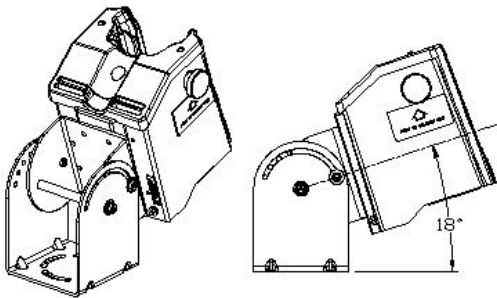
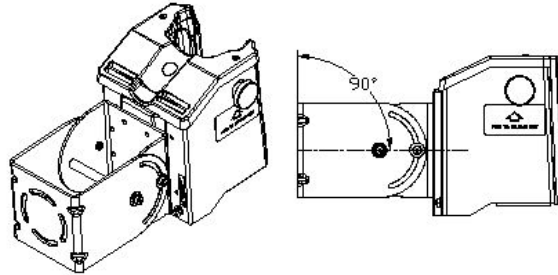

Figure 1
Figure 2
This swivel heavy duty mount can be installed in orientations ranging from 18° to 90° (See Figure 1 and 2). Select the best orientation for your specific application. Preferred orientations maintain the cradle assembly in the end slot position or close to 18° off horizontal (See Figure 1) for horizontal surfaces and an orientation of 90° for vertical surfaces (See Figure 2).
Mount orientation shown in Figure 1 is considered the preferred configuration for the Heavy Duty Mounting Kit. Hardware (J, K, L & M) for securing Base (A) to local platform are recommended sizes. If replacement hardware is need, it should be consistent with these diameters. All fasteners must use a suitable locking mechanism to ensure they do not loosen under shock & vibration.